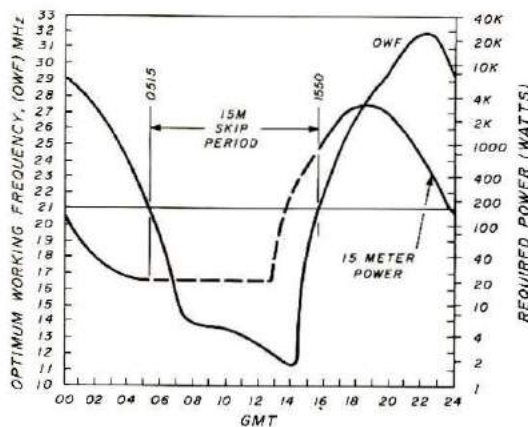

Fig. 5. Predictions for required power on 15 meters and for OWF over the Maui to Belem path in March, 1978.
**Fig. 5** repeats the OWF curve and shows required power on 15 meters.
The first thing you'll note is that, in general, power requirements are least in the hours of darkness over the path. However, during much of this time, but fortunately not all, the signal is skipping so that you don't hear it anyway. Power requirements are greatest a few hours before maximum OWF, 400 kilowatts on 20 meters (**Fig. 4**) and 3 kilowatts on 15 (**Fig. 5**). This is indeed a long path! But
situation of the schedules between KH6SB on Maui and W0YBF aboard the *Santa Magdalena*, the hour beginning at 2030Z was a poor choice. The 15-meter power requirement for S5 at that time, according to Fig. 5 would have been about 2 kW. However, at 0500Z the requirement would have been approximately 20 watts for S5, but only 0.2 watt for an S1 signal (20 dB lower). A 15-meter contact with KH6SB a week earlier, when I was 2000 km (1200 miles) closer, at 2040Z produced only an S3 report from Steve. At 2100Z the same day, Del, W8BDR, gave me a 569 report from Michigan. He was much farther east and nearer to skip time.